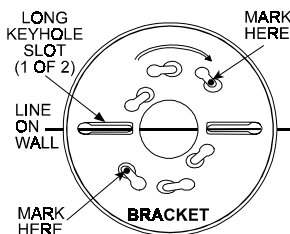

Figure 5. Aligning the Bracket
Read Section 4 in this manual first, then decide where to install a detector. Refer to Figures 5 and 6 and proceed as follows:
- C. Place the bracket so that the two longest hole slots are aligned on the line. In each of the keyhole slots, draw a mark to locate a mounting plug and screw as in Figure 5.